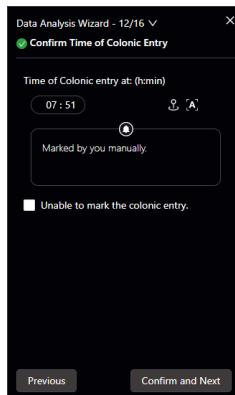

Figure 4-36 Data Analysis – Confirm Time of Colonic Entry
13) Confirm Time of Colonic Entry (Figure 4-36). Check the time the capsule entered the colon is correct. If incorrect, you can directly input the necessary time in the time edit box, or click [Mark on the graph] to mark the time on the chart. To restore the time automatically marked by MotiliScan, click [Auto Compute] . If the time cannot be marked, check [Unable to mark the colonic entry]. After confirmation, click [Confirm and Next] to proceed.